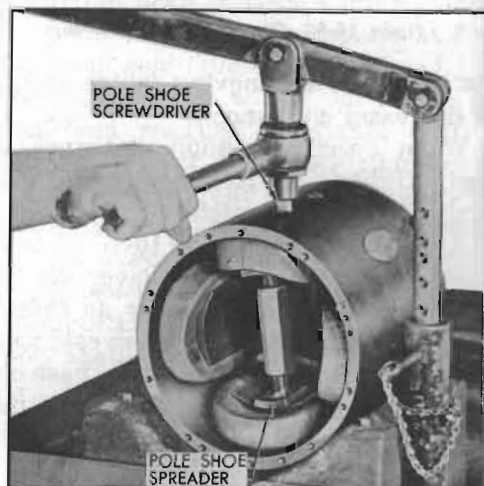

Figure 10-55—Using Pole Shoe Spreader and Screwdriver
6. If field coils are to be removed from field frame, a pole shoe spreader and pole shoe screwdriver should be used to avoid distortion of frame. See figure 10-55.
driver to install them, to avoid distorting field frame and to insure proper tightening of pole shoe screws. See figure 10-55.